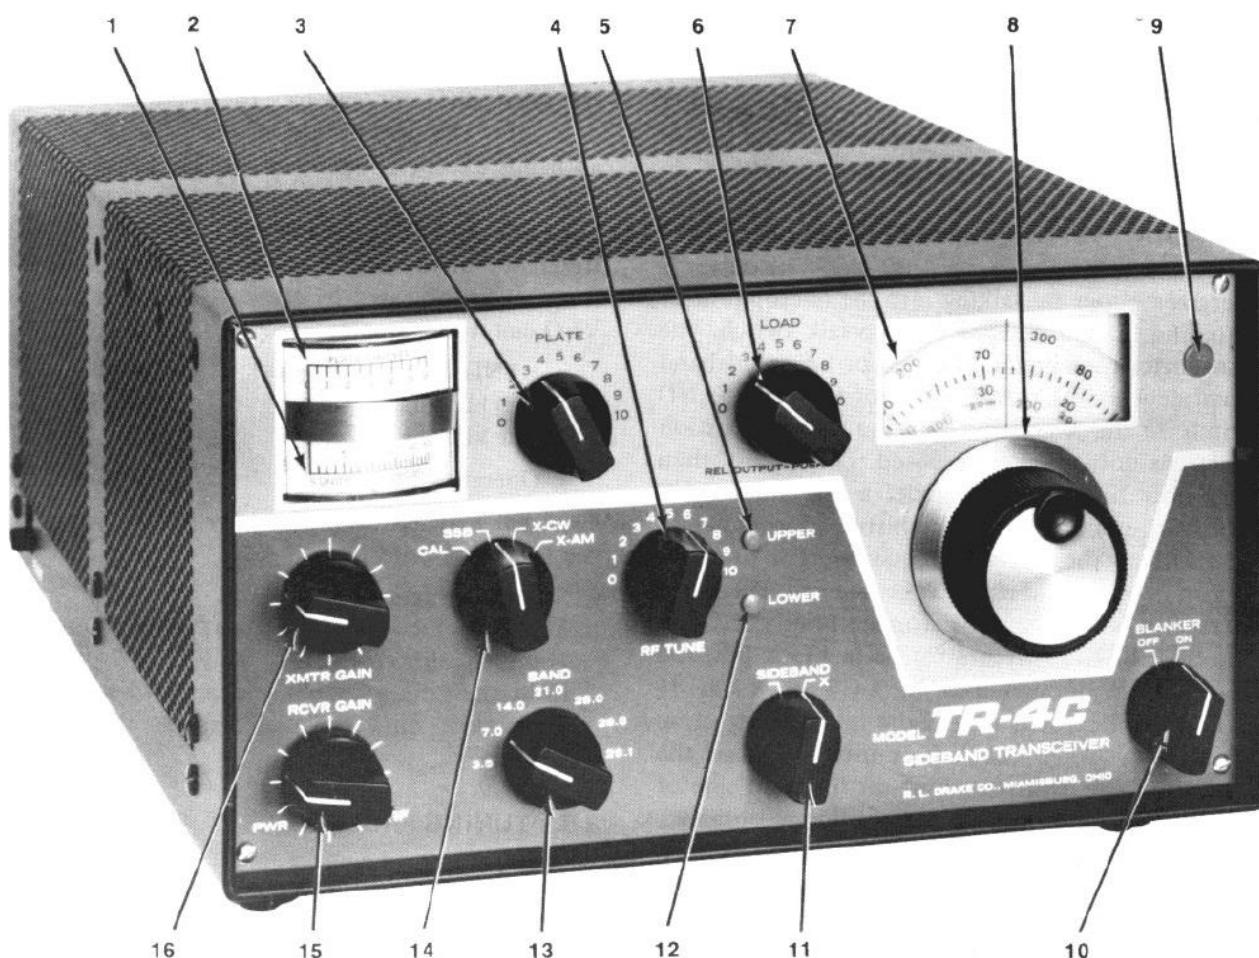

Figura 3-1 Controles del panel frontal
- Figura 3-1 Controles del panel frontal